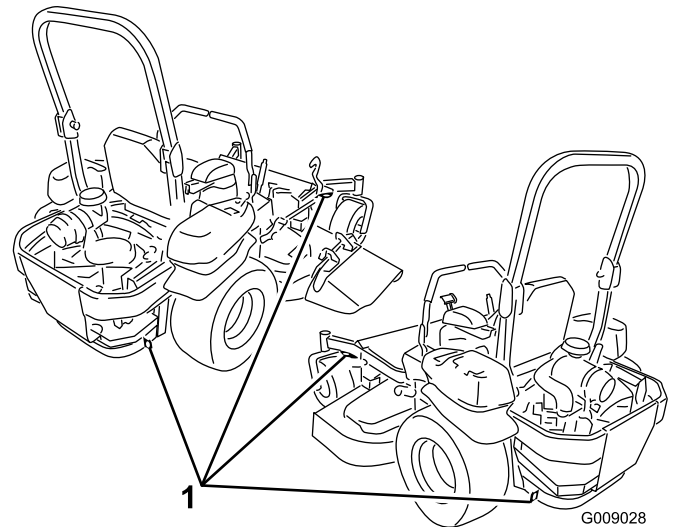

Figure 39
5. Use the metal tie down loops on the machine to securely fasten the machine to the trailer or truck with straps, chains, cable, or ropes (Figure 39).